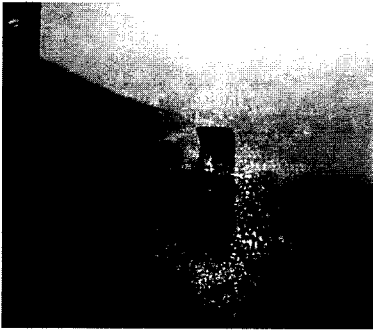

Figure 1 – Power Switch
1. Turn off all electrical power to the boiler. See Figure 1.